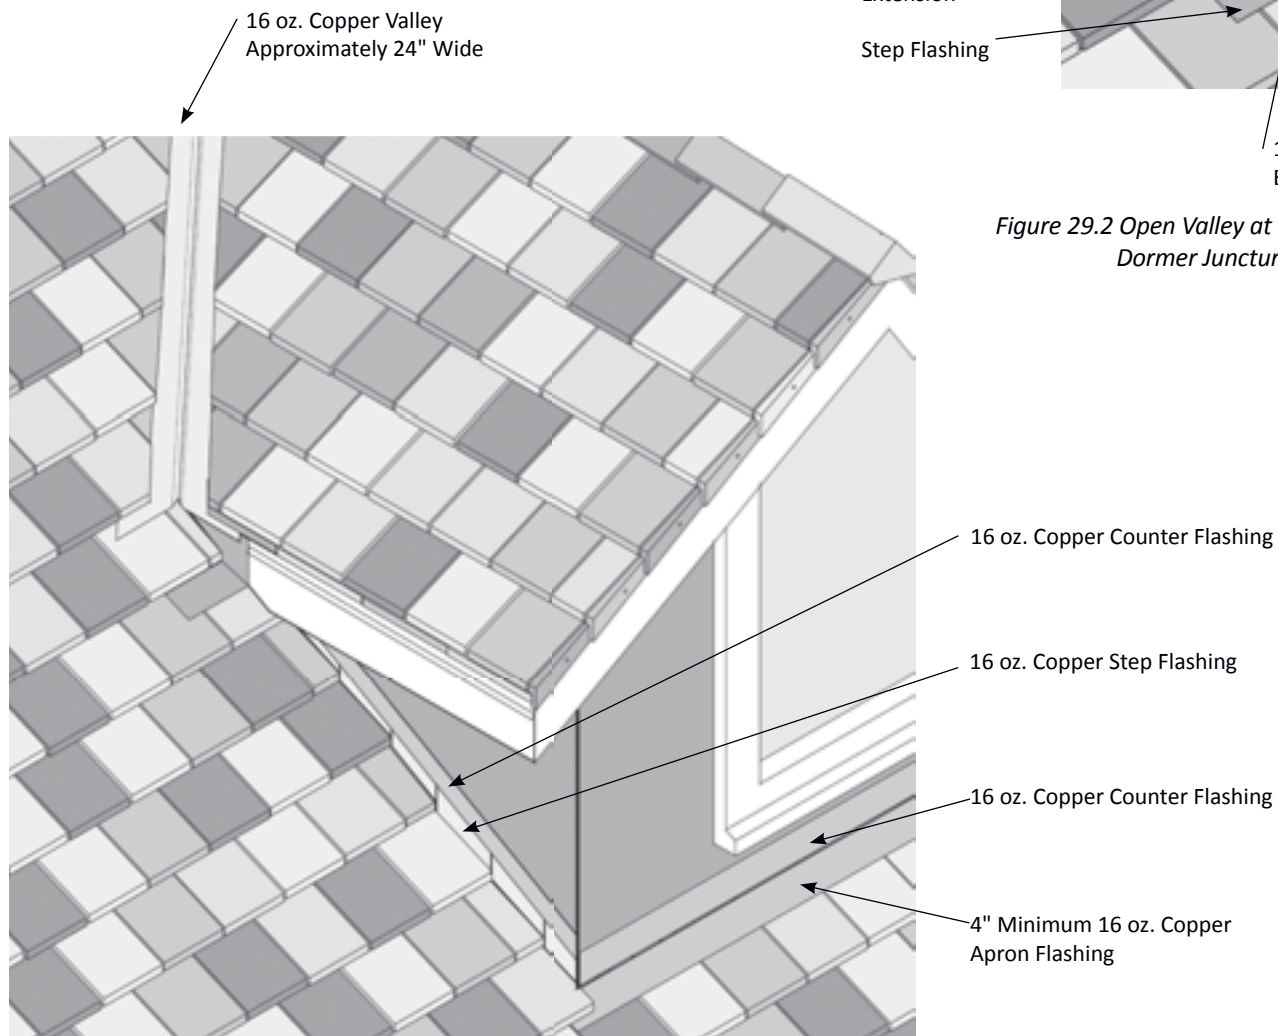

Figure 29.1 Open Valley at Main Roof to Dormer Juncture
1. The main roof tiles should be installed to just above the lower end of the valley, where the valley and the main roof intersect. Along the roof and wall juncture, step or channel flashing must be used and the last tile in the course should fit closely against the wall of the dormer (see Figure 29.1).